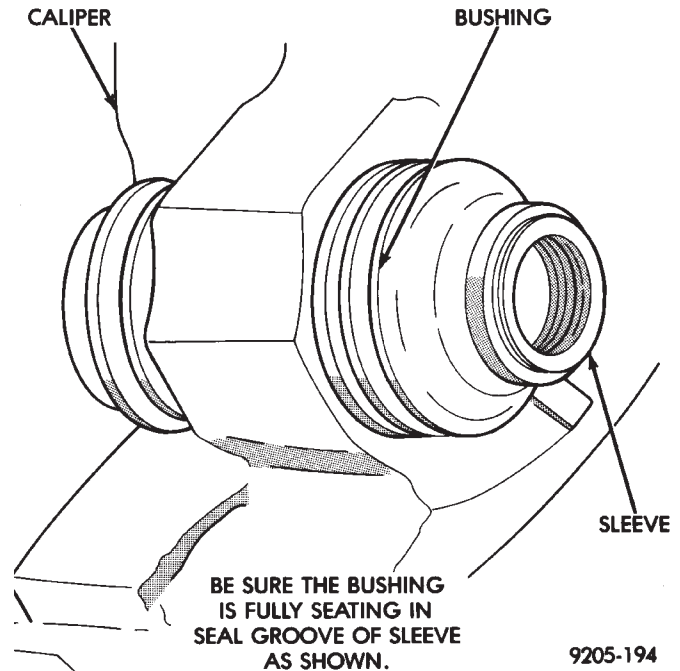

Fig. 8 Installed Caliper Bushing Sleeve
(3) Holding the sleeve in place work the other end of the bushing over the end of the sleeve and into the seal groove (Fig. 8). Be sure the other end of the bushing did not come out of the seal groove in the sleeve.